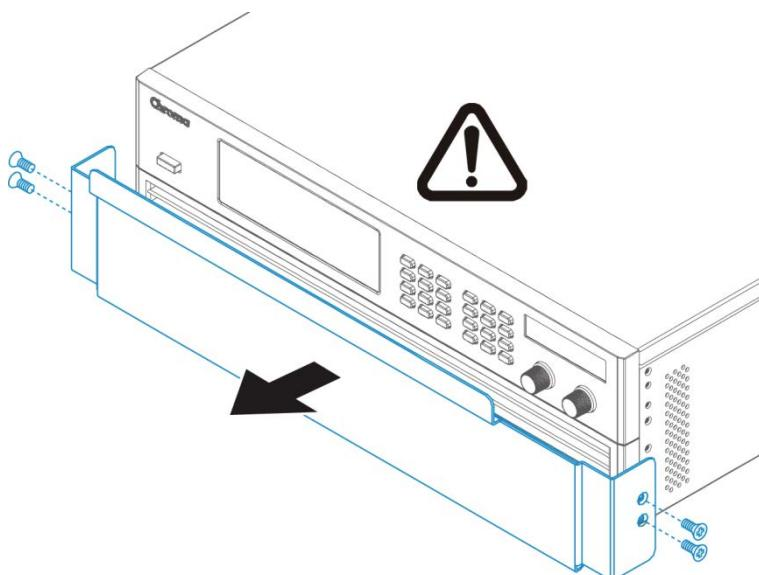

Figure 2-2
- (1) Remove the iron holder on the front panel as shown in Figure 2-2 and keep it in case the Power Supply needs to be returned for service.
- (2) Be sure the Power Supply is connected to an AC line input that meets the specifications.
- (3) The instrument must be installed in an area with good air circulation to avoid the internal temperature getting too high.
- (4) The ambient temperature should not exceed 40°C.